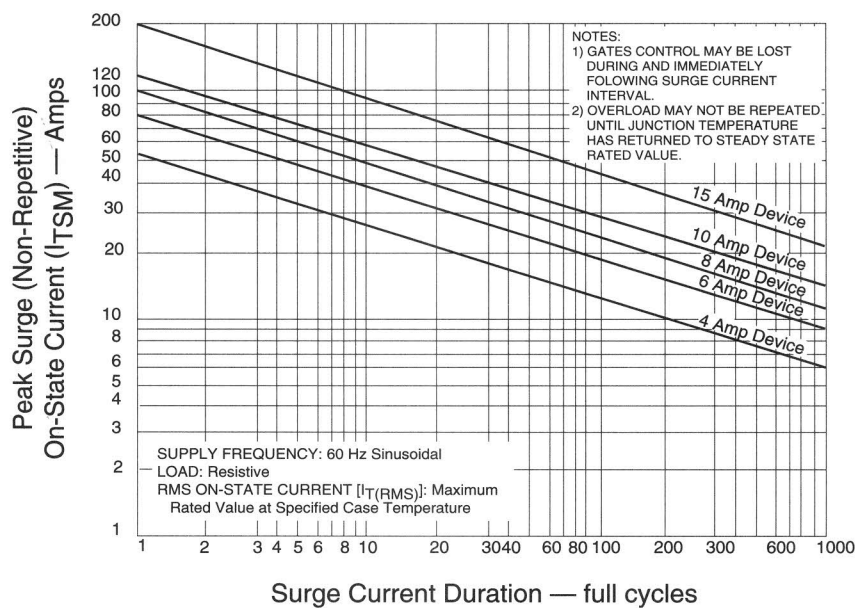

Figure 3.9 Peak Surge Current vs Surge Current Duration
- See Figure 3.9 for surge ratings with specific durations.